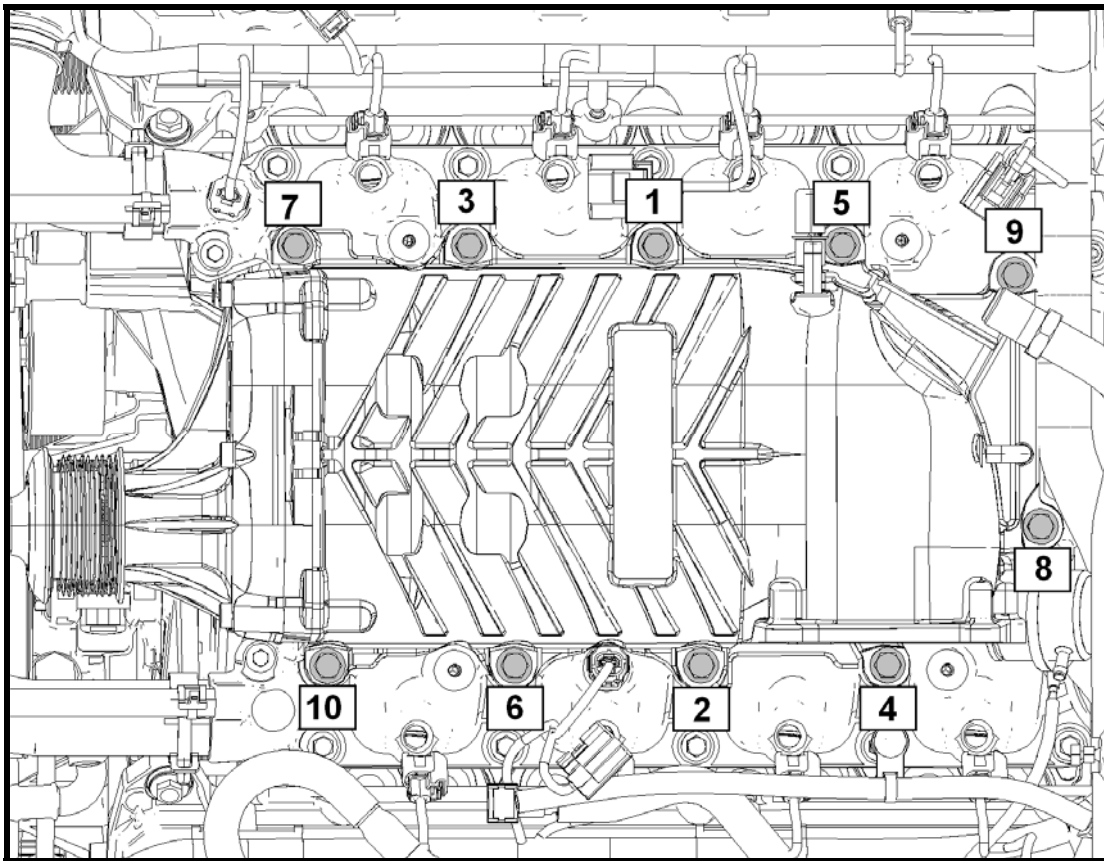

Fig. 16
**STEP 1:** Install the new supercharger to the intake manifold using the stock fasteners. Torque the fasteners to 5 Nm (44 lb in) using the inside-out pattern shown below (See Fig. 16). Repeat this procedure and torque each fastener to 25 Nm (221 lb in)